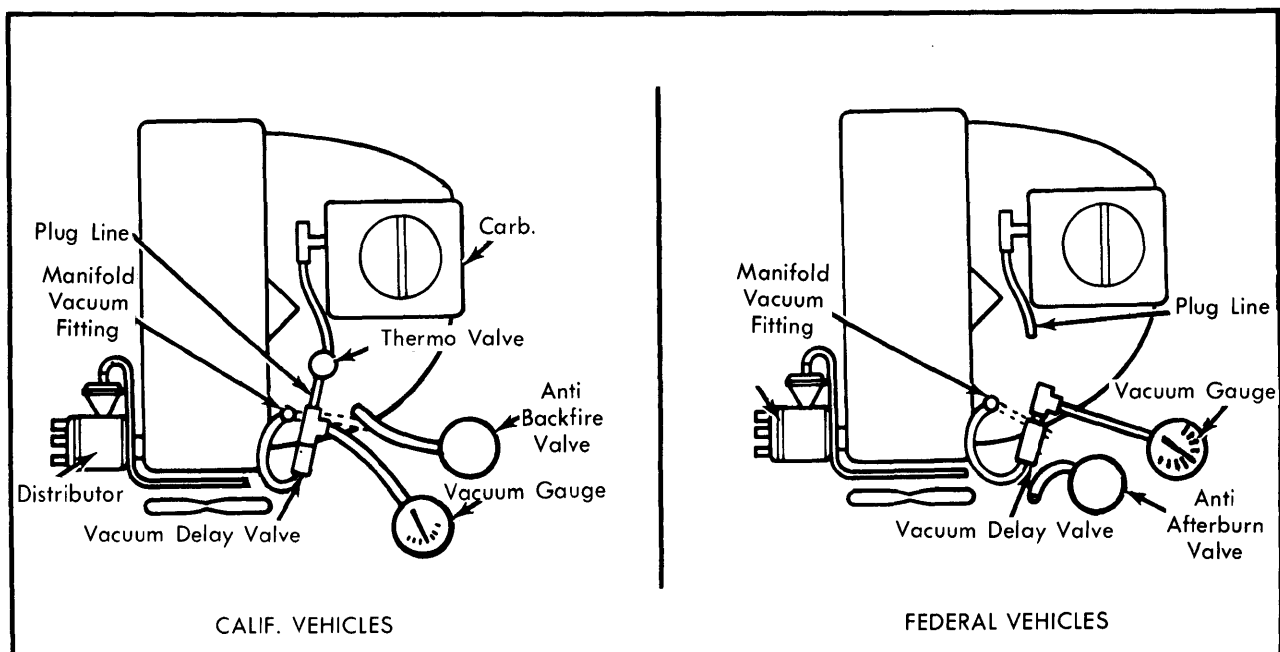

Fig. 2 Spark Timing Control System Test Connections (2.0 Liter Engine)
2) Remove vacuum line from carburetor side of vacuum delay valve, plug line and attach vacuum gauge to vacuum delay valve. See Fig. 2. Start engine and run at idle speed.